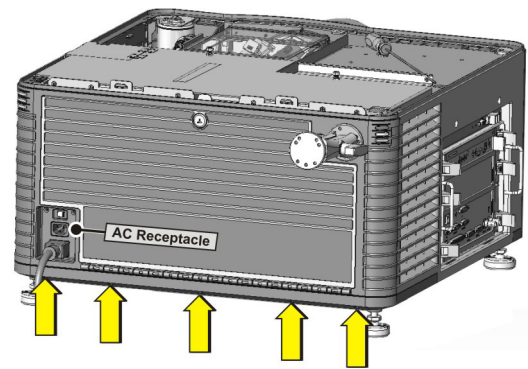

Figure 5-8 Remove Rear Access Door Skin
4. Remove the five socket head cap screws along the bottom edge of the projector (**Figure 5-8**).